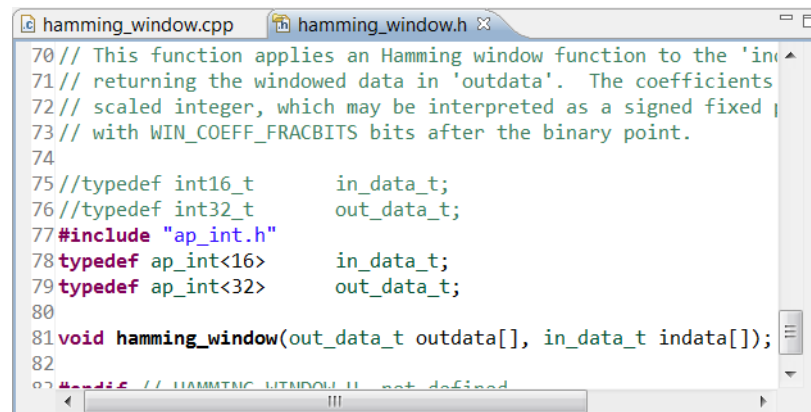

Figure 3-19: Type Definitions for C Validation Lab 3
6. Scroll down to view the type definitions (Figure 3-19).